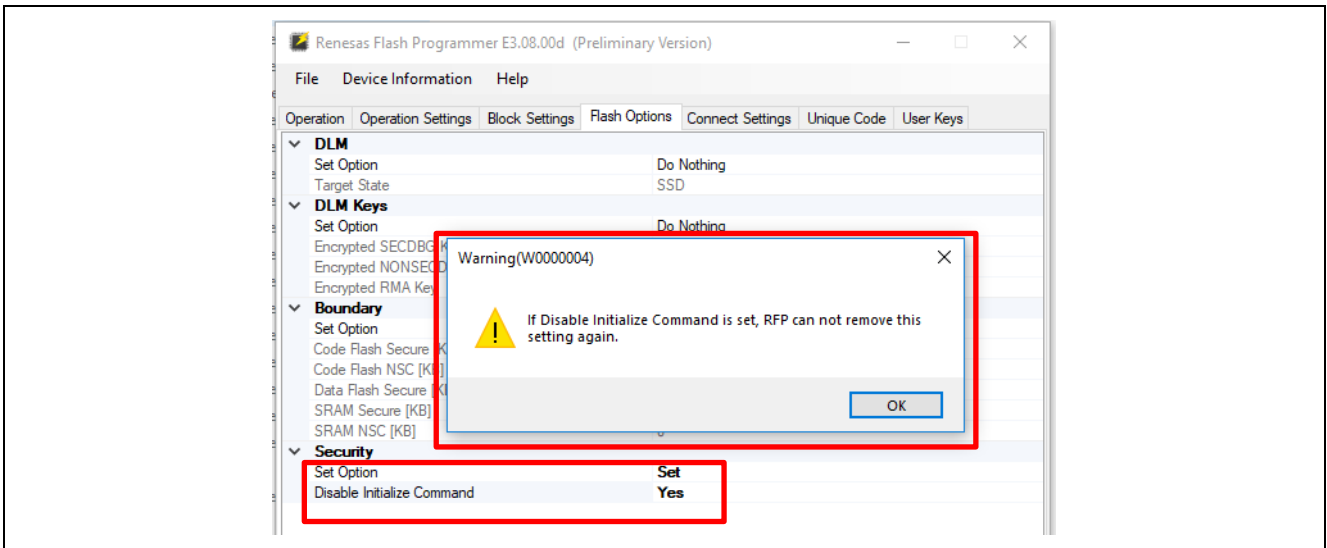

Figure 8. Disable the Initialize Command
- Developers who do not want this functionality can disable the **Initialize** command permanently using RFP as shown in Figure 8 . **However, once the Initialize command is disabled, it can never be recovered.**